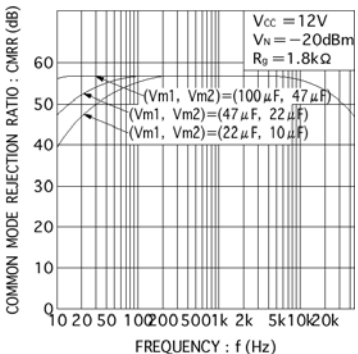

Fig.10 Common-mode rejection ratio vs. frequency
- (8) The capacitors of 2pin (V_{m1}), and 6pin (V_{m2}) should maintain the ratio of 2:1 for ripple removal characteristics. Maintaining this ratio will not cause ripple removal rate to reduce significantly even if the capacitance reduces to a half.
- (9) Setting the capacitor to the double or half will make the CMRR in the low range to +6dB or -6dB respectively (Fig. 10)